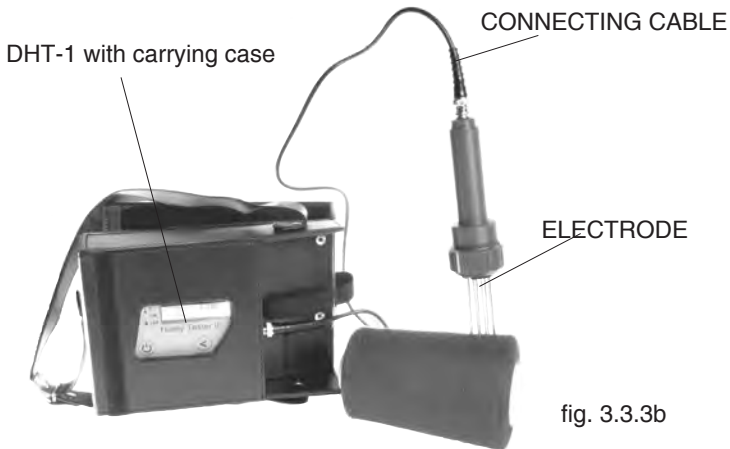

fig. 3.3.3b
- Plug in the CONNECTING CABLE at the BNC connectors of the ELECTRODE and the DHT-1 moisture meter (fig. 3.3.3b).